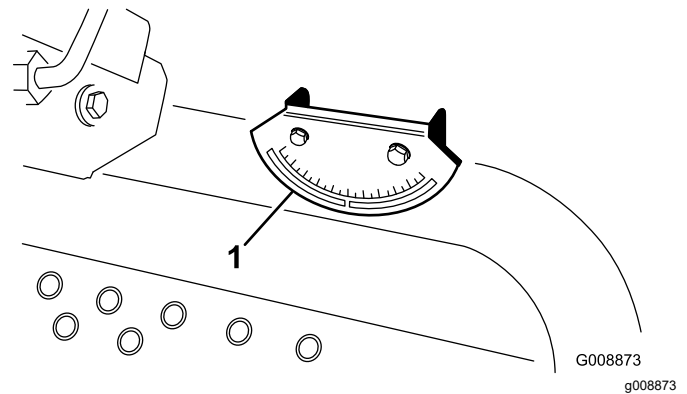

Figure 7
4. Check the slope indicator mounted on the steering tube of the machine (Figure 7).